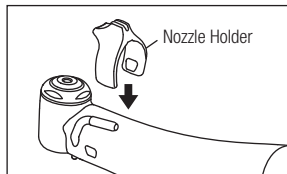

Fig. 6
- 1) Attach the Nozzle Holder. (Fig.6)